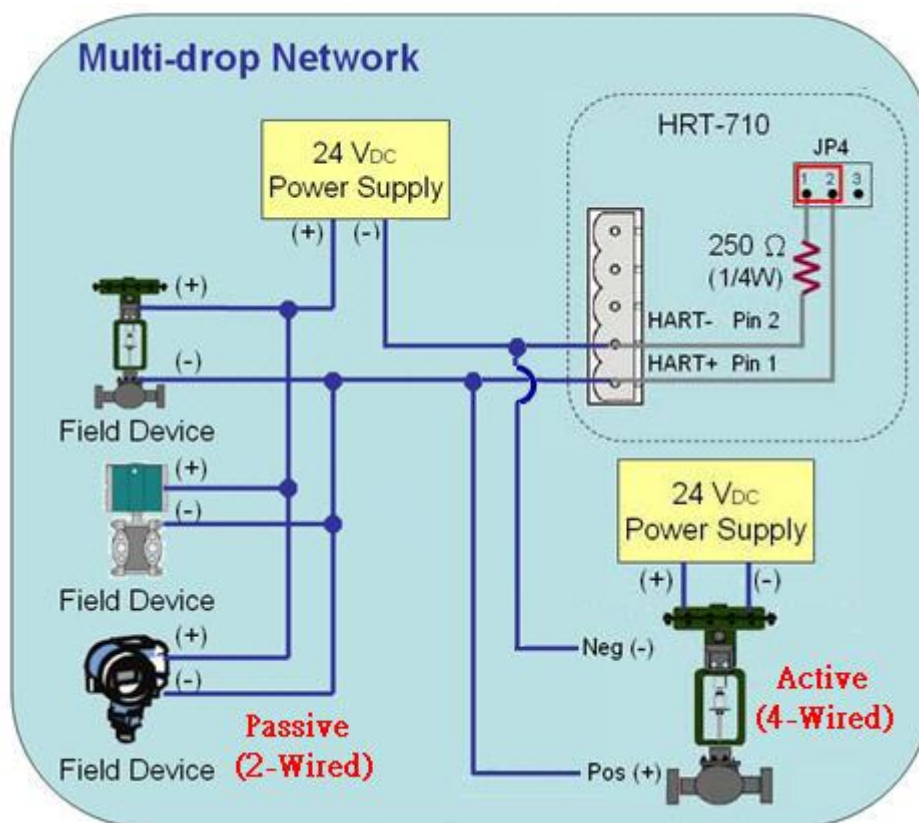

Figure 8-1 : The HART wiring of the Active and Passive HART devices
1. The HART wiring of the Active and Passive HART devices, please refer to the figure 8-1.